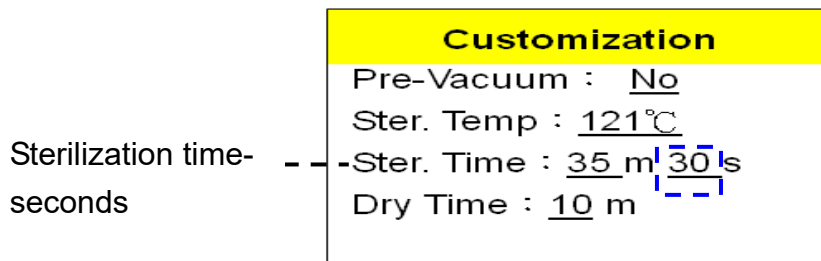

Figure 77
- Press  button to store sterilization time parameter as shown in Figure 77.